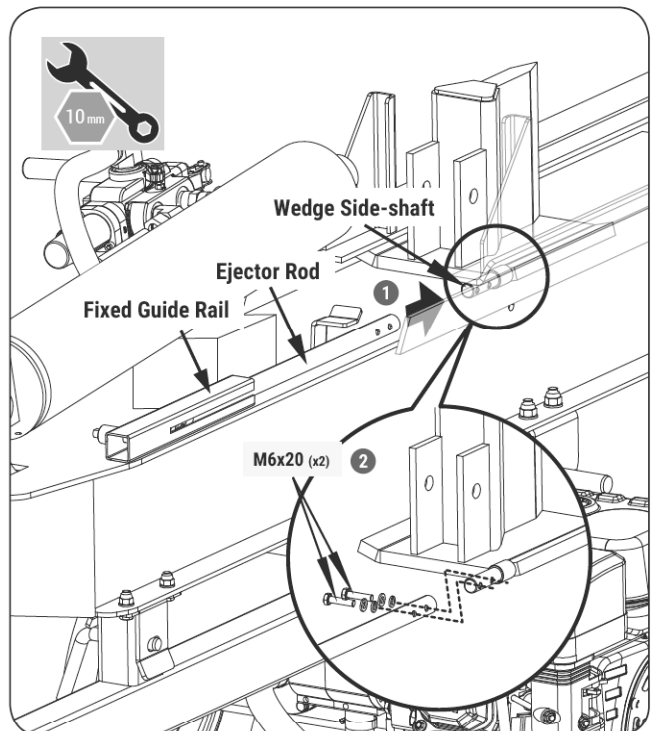

Figure 2
1. Let the ejector rod go through the fixed guide rail. Align the holes in the front end of the ejector rod with the holes in the wedge side-shaft. (See **Figure 2, illustration 1.**)
2. Fasten the ejector rod with the wedge side-shaft. (See **Figure 2, illustration 2.**)